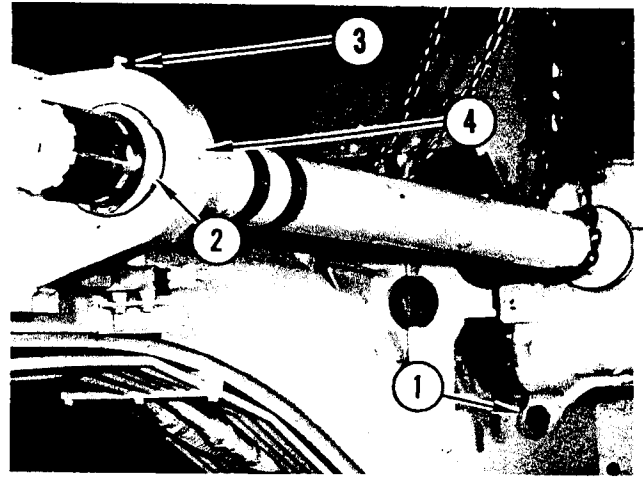

FIGURE 4. BLADE LIFT ASSEMBLY
(1), Figure 4, will clear main frame. Pull forward on assembly until end of lift shaft clears bearing (2).